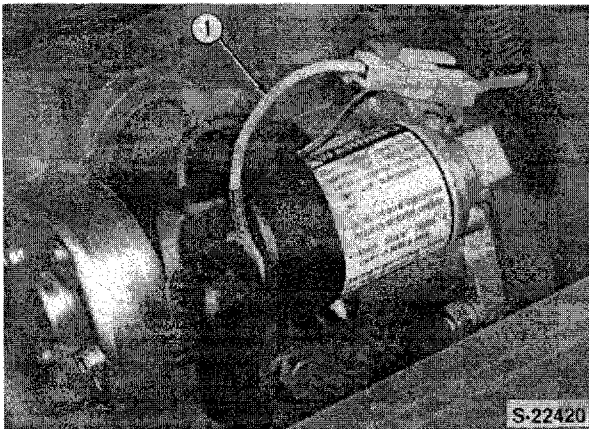

Figure 9
The fuse link (1), Figure 9, is installed between starter battery terminal and the main wiring harness leading to the alternator/regulator and key start switch.